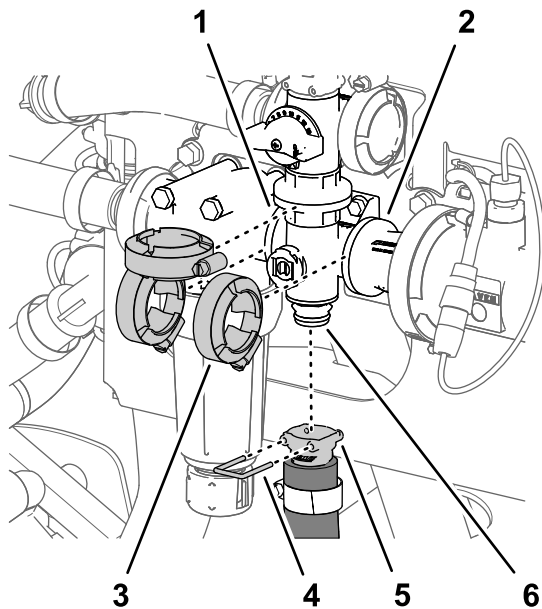

Figure 106
1. Remove the quick connect pin that secures the quick-connect coupler for the agitation hose to the manifold for the agitation valve (Figure 106).
2. Remove the 3 flange clamps that secure the agitation-valve manifold to the flanges of the pressure-filter head and the coupling adapter (Figure 106).